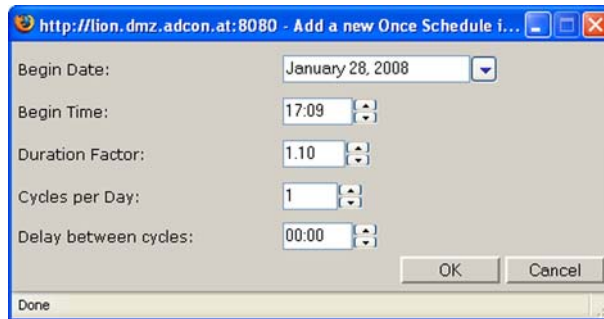

Figure 10. Add a New Once Schedule Item Dialog
4. The last pane on the **Run Types** tab, **Additionally Once at**, enables you to define run times that overrule the scheduled times. Click the **Add** button to display the dialog shown in Figure 10.